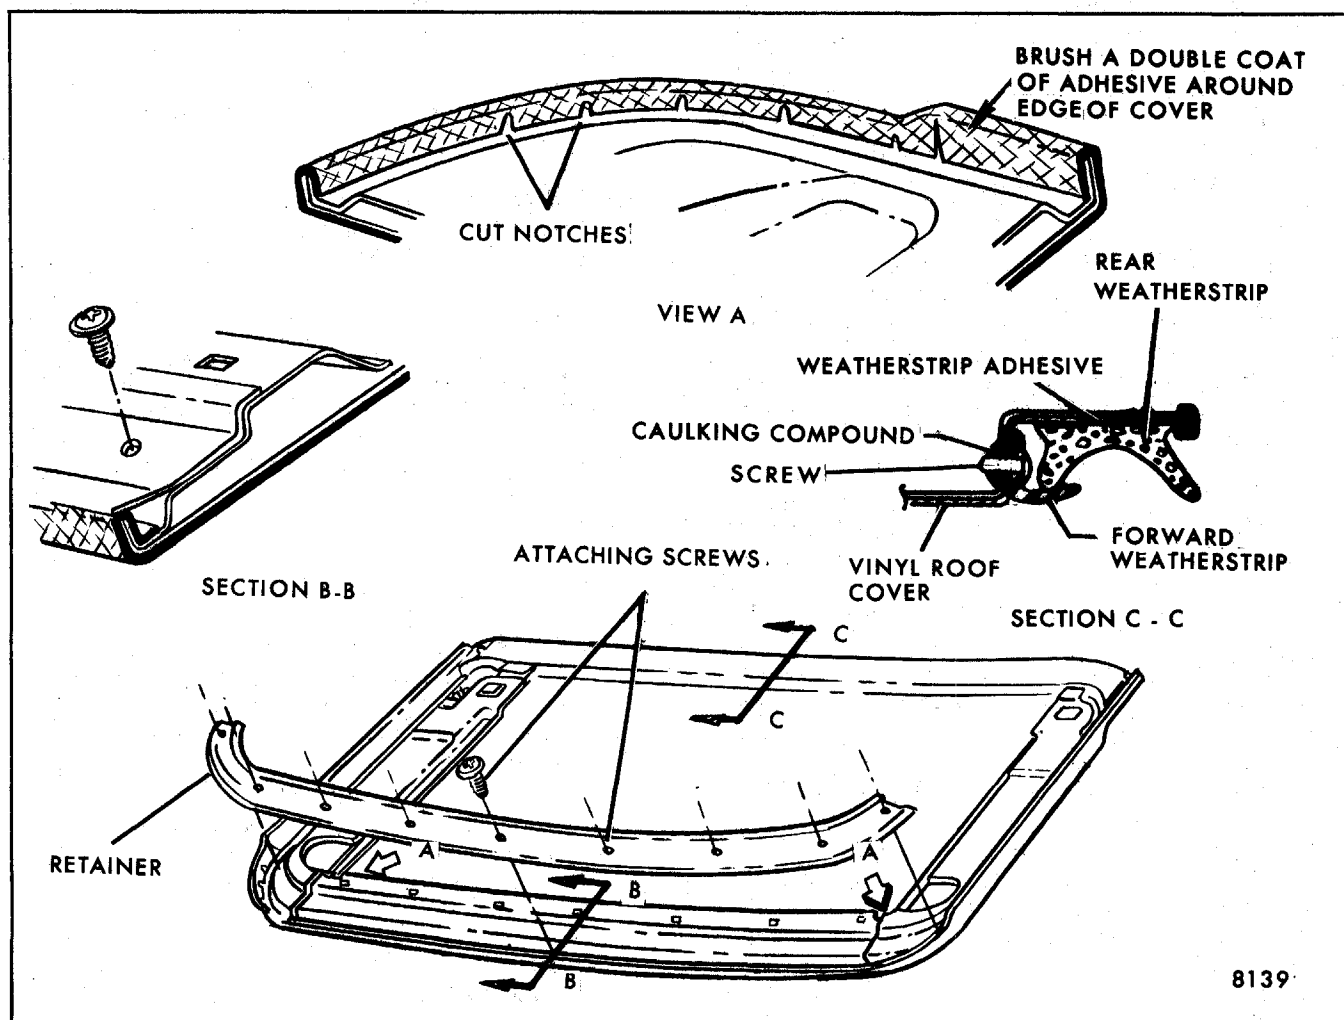

Fig. 8-39-Fabric Roof Cover Installation on Sliding Sun Roof Panel (CA1 or CO3 Option)
1. Remove the following prior to removing fabric cover from sliding sun roof panel (see Fig. 8-39).
11. Apply adhesive to rear weatherstrip and contacting surface at rear of panel, then install weatherstrip, retainer and water deflector (Fig. 8-39).